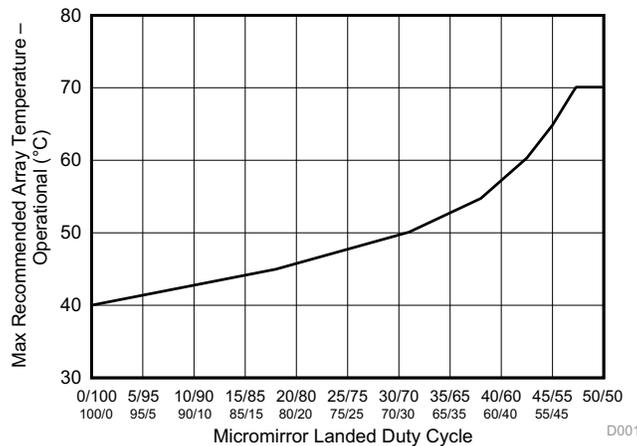

Figure 1. Max Recommended Array Temperature – Derating Curve
- (13) Per Figure 1, the maximum operational array temperature should be derated based on the micromirror landed duty cycle that the DMD experiences in the end application. Refer to *Micromirror Landed-On/Landed-Off Duty Cycle* for a definition of micromirror landed duty cycle.
- (14) Long-term is defined as the usable life of the device
- (15) Array temperatures beyond those specified as long-term are recommended for short-term conditions only (power-up). Short-term is defined as cumulative time over the usable life of the device and is less than 500 hours for temperatures between the long-term maximum and 75°C, less than 500 hours for temperatures between 0°C and -10°C, and less than 25 hours for temperatures between -10°C and -20°C.